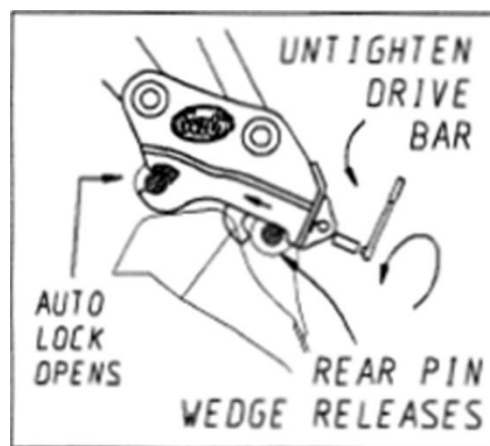

Fig. 23
1. With Quick Coupler and attachment at ground level, position attachment in a slightly curled position with hooks pointing upwards as per (see fig. 23) so as to prevent attachment from sliding out of Quick Coupler when released.
3. Obtain the drive bar supplied with manual autolock Quick Coupler and connect it to the cylinder drive shaft at back of engaging plate. Turn the drive bar anti-clockwise to release the attachment. At initial loosening the back pin lock wedge will release the attachment back pin. See fig. 23. Continued loosening will open the auto-lock from over the front pin. Remove drive bar from the quick hitch. The attachment can now be released from the Quick Hitch. See fig. 23.